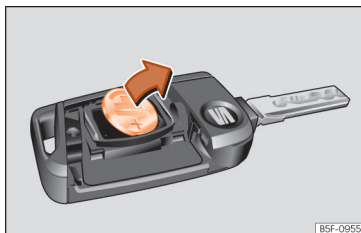

Fig. 123 Vehicle key: removing the battery.
- Extract the battery from the compartment using a suitable thin object **»** **Fig. 123**.
- Place the new battery in the compartment as shown **»** **Fig. 123**, pressing in the opposite direction to that shown by the arrow **»** **⚠**.